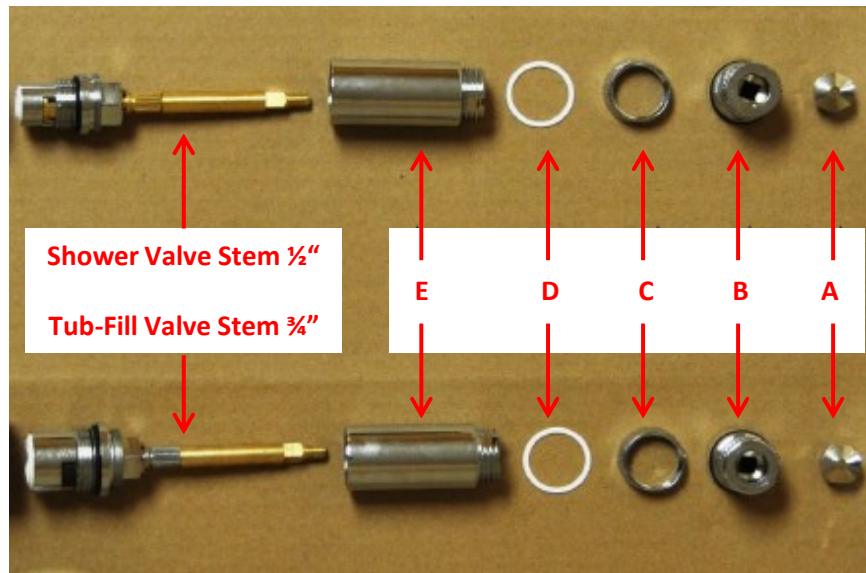

Figure 1
Step 3: Using a crescent wrench, remove part A (fig. 1). Hold the valve assembly firmly with your fingers.
Step 4: Remove part B (fig. 1). Simply pull straight out.
Step 5: Using a crescent wrench, remove part C (fig. 1).
Step 6: Remove part D (fig. 1).